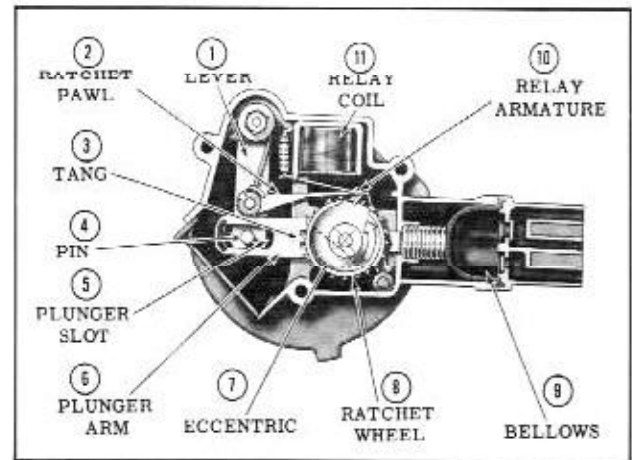

Fig. 13-113 Washer Operation
Whenever the windshield wiper is in operation the washer cam rotates with the wiper drive gear. Rotation of the washer cam (Fig. 13-113) actuates a spring loaded lever (1), pin (4) and the ratchet pawl (2).